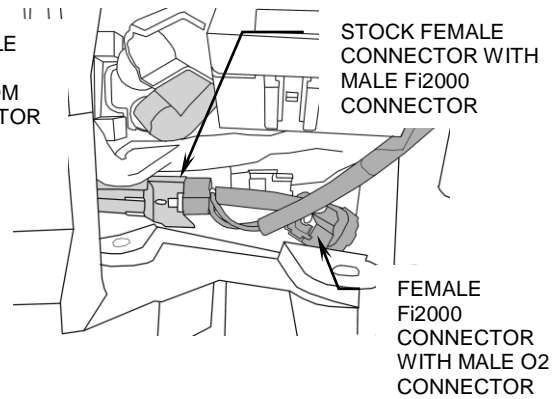

FIGURE 4
6. Feed the female oxygen sensor connector and harness from the Fi2000 down to the stock male oxygen sensor connector, and connect the two. Now connect the male Fi2000 oxygen sensor connector to the stock female oxygen sensor connector, see Figure 4, once this has been done reinstall the fuse block onto its mounting tab.
Your Fi2000 fuel injection module has been tested and preset for best function and rideability on a motorcycle with aftermarket air cleaner and an aftermarket performance exhaust. The Fi2000 does however, have 3 important adjustments that allow you to tune the module for optimum performance, especially if you have performed other changes to your motorcycle. These adjustments also allow you to resolve drivability issues if our stock settings are not exactly right for your bike. Make sure your motorcycle is up to normal operating temperature (15 minutes of riding should be sufficient) before making any adjustments. Remove the door to expose the pots shown in Figure 4.